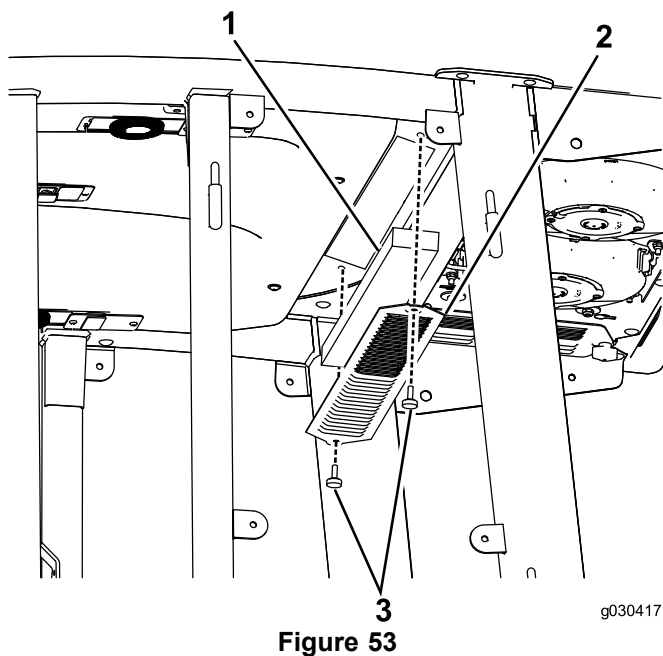

Figure 53
1. Remove the thumb screws and the grates from both the in-cab and rear cab air filters (Figure 53).